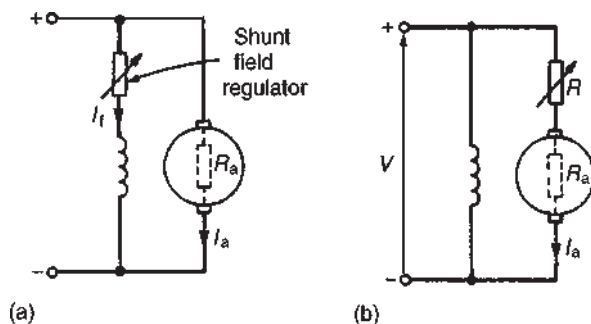

Figure 22.29
(see equation (9)). The speed is varied either by varying the value of flux, Φ , or by varying the value of R_a . The former is achieved by using a variable resistor in series with the field winding, as shown in Fig. 22.29(a) and such a resistor is called the **shunt field regulator**.
are obtained by increasing the resistance in the armature circuit, as shown in Fig. 22.29(b), where
- With reference to Fig. 22.29(b), back e.m.f. at 120 A, $E_1 = V - I_a R_a = 500 - (120)(0.2)$